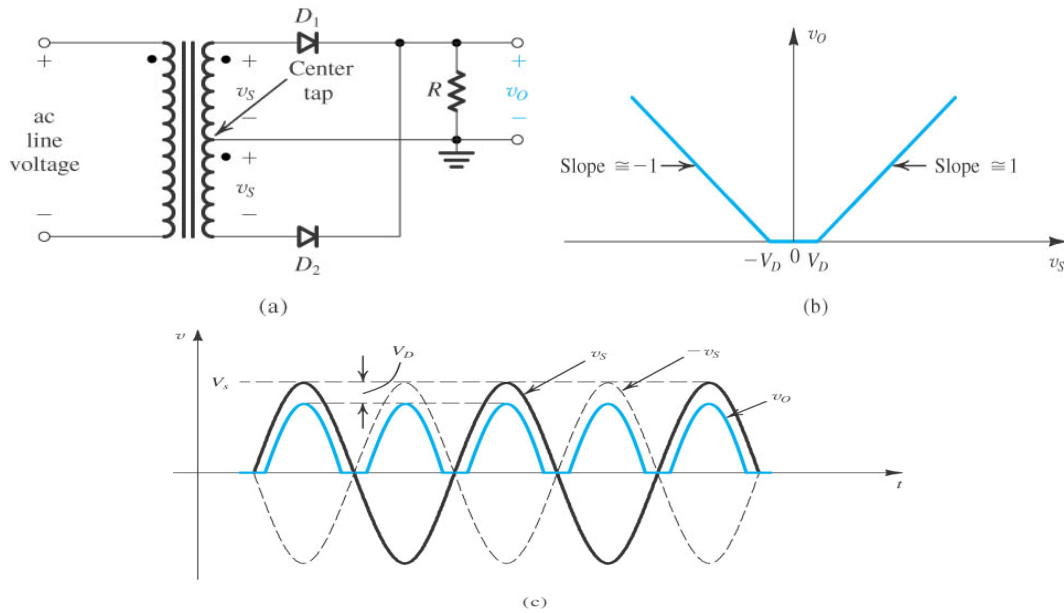

Figure 5.22: Circuit of full-wave rectifier using center-tapped transformer.
- Figure 5.22 shows an example of full-wave rectifier.